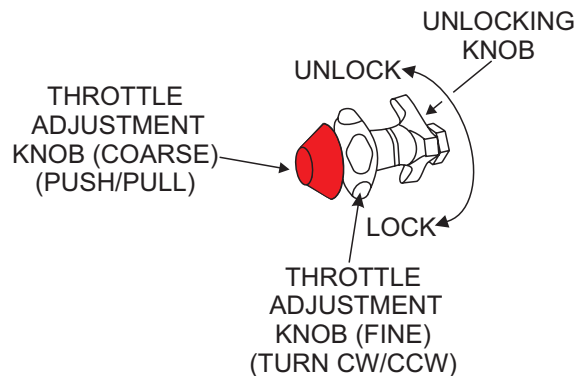

Figure 26. Throttle Control Knob (Un-locking)
- Unlock the throttle cable. To unlock the throttle cable, turn the inner most knob counterclockwise (Figure 26.)
- Turn the unlocking knob (figure 26) clockwise to lock engine RPM in place.